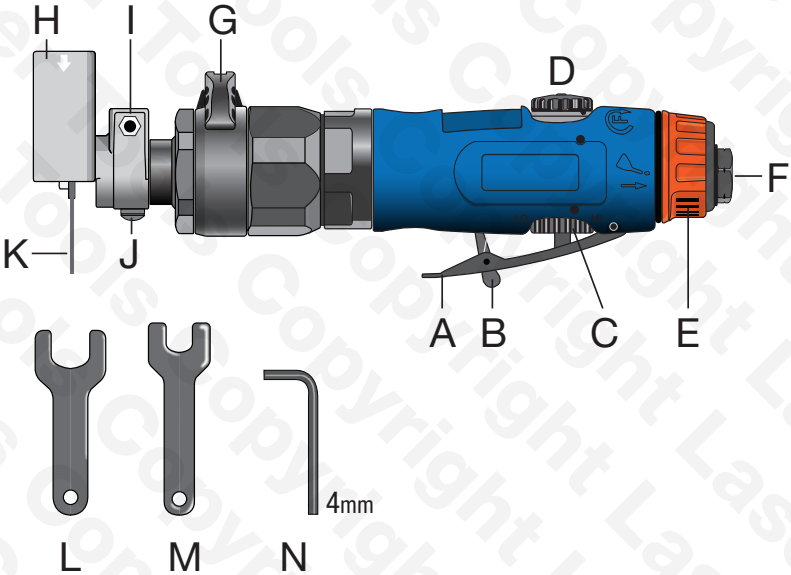
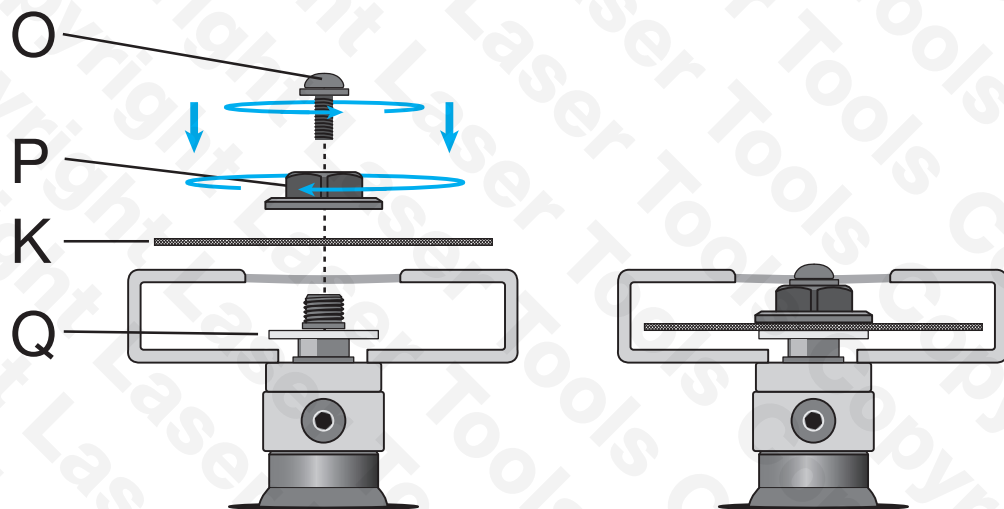
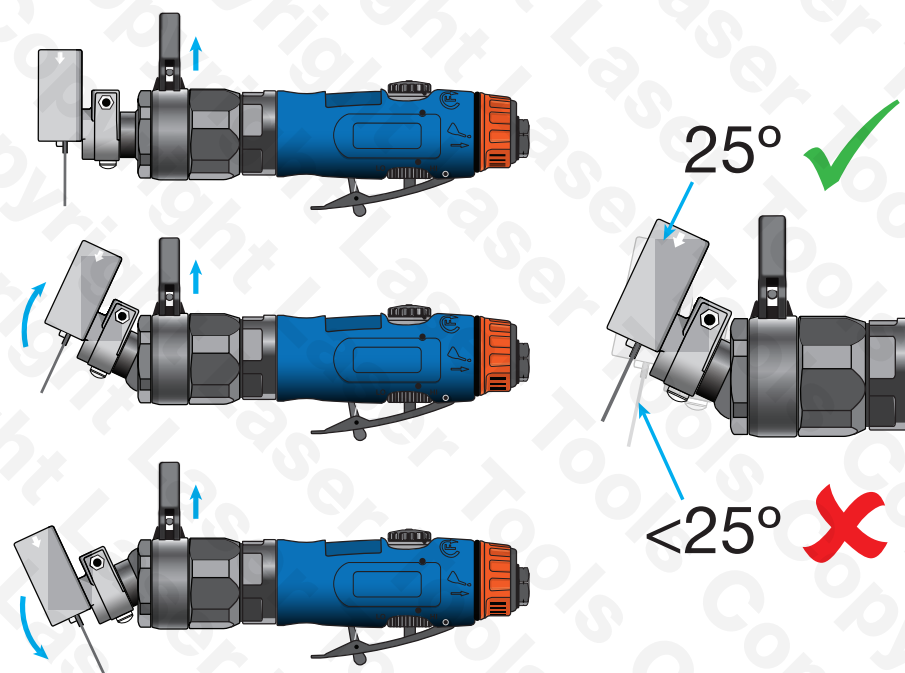

Fig 1
Fig 4
Fig 5
Refer to **Figure 1**: the speed of the instrument is adjusted by turning the speed control (**C**) towards LO or HI.
- First lock the tool spindle with the spindle lock key (**M** in **Figure 1**).
- Refer to **Figure 4**: remove the cutting wheel reverse lock screw (**O**) with the 4mm hex key (**N** in **Figure 1**). Note: this screw has a left-hand thread and is designed to lock the cutting wheel securing nut (**P**) when the tool is being used in the reverse cutting direction.
- Now remove the cutting wheel securing nut (standard right-hand thread) with the cutting wheel securing nut key (**L** in **Figure 1**).
Refer to **Figure 5**: the 3-position flexi-head is quickly adjusted to 25° up or down from the standard straight position by releasing the securing clamp (**G** in **Figure 1**) and repositioning the head.